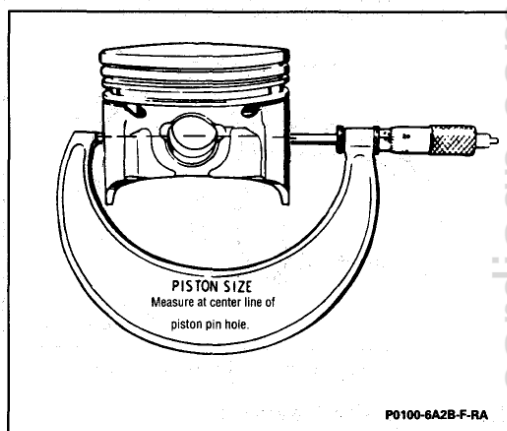

Figure 34 Measuring Piston
1. Piston diameter. When measuring piston for size or taper, measurement must be made as shown with the piston pin removed (Figure 34). If worn or damaged, replace with a standard or oversize piston.